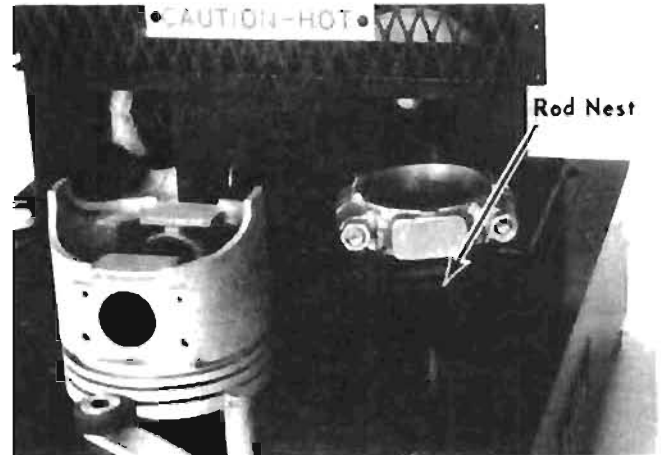

FIGURE 10
1. Place the journal end of the rod in the Rod Nest and the pin end or eye of the rod in the Heating Unit. See Figure 10.